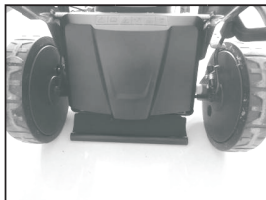

Fig .9D
3. Lower the rear cover again. (Fig.9D)